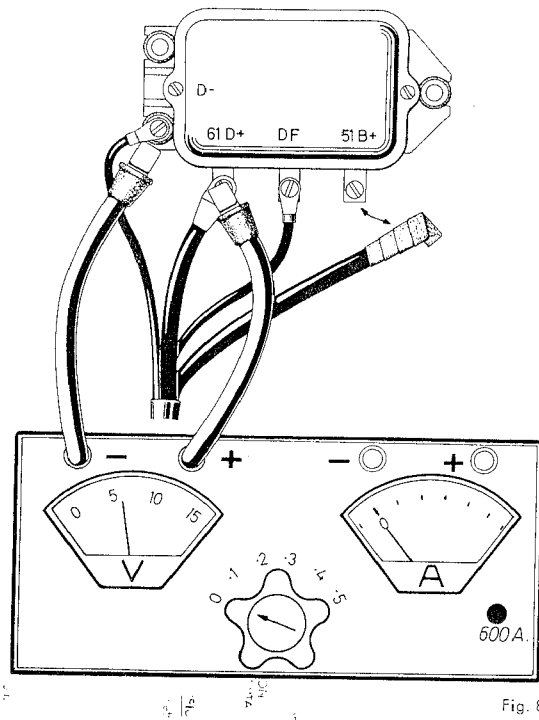
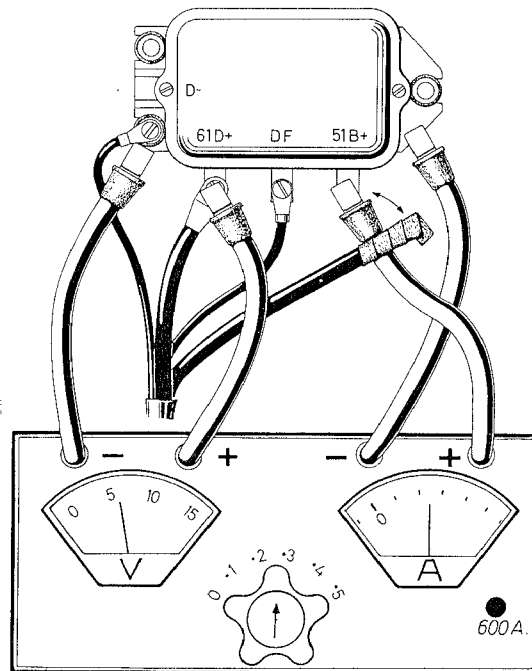

Fig. 8
Fig. 9
2. Disconnect battery lead from terminal "51 B+" at the regulator and insulate end with tape. Connect the positive lead of the voltmeter to terminal "61 D+" and the negative lead to ground on the regulator base plate (Fig. 8).
1. Connect leads as in Fig. 8.
1. Connect leads as in Fig. 8 and connect ammeter to terminal "51 B+" and ground as in Fig. 9.
1. Connection as in Fig. 9, generator running at test rpm.
1. Connections as for previous test. If necessary reset variable resistor to nominal output and check setting with ammeter as in 4 LI, Fig. 9.